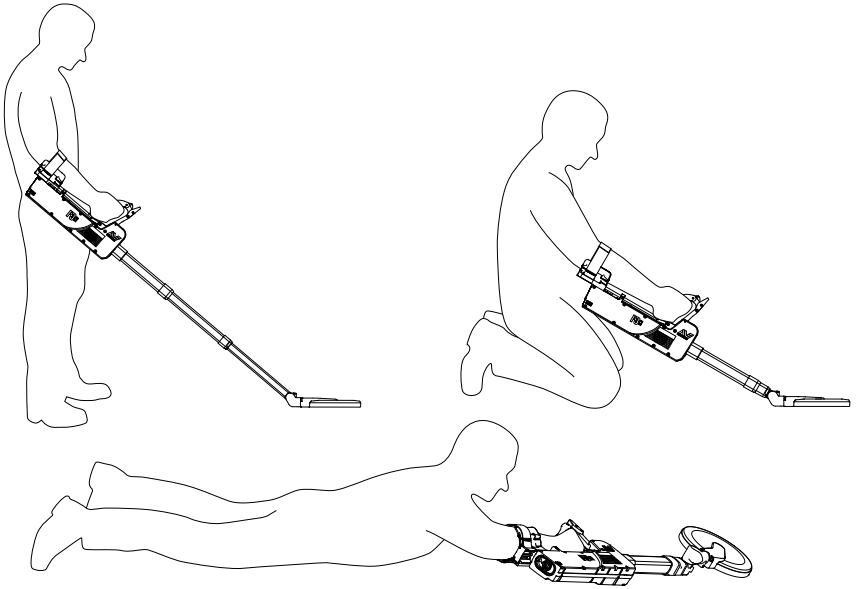

Figure 6: F3Ci in the standing, kneeling or prone positions
- f. Extend the Lower and Middle Shafts to suit the selected demining position as shown in Figure 6.